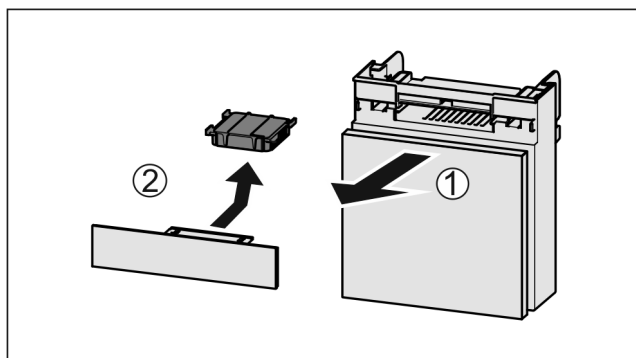

Fig. 119
- ▶ Pull out the compartment Fig. 119 (1).
- ▶ Remove the carbon filter Fig. 119 (2).